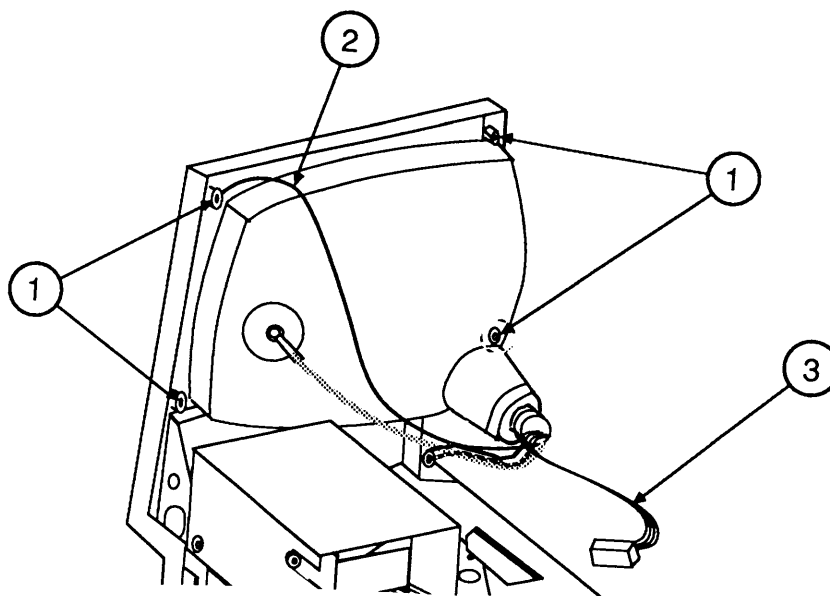

FIGURE 12
4. Gently remove the CRT socket cable (Figure 12, #3) by sliding it straight out from the neck.
1. Set the CRT in the case with the anode facing away from the power/sweep board (see Figure 12).
3. Replace the four CRT screws (Figure 12, #1). Be sure to reinstall the ground wire (Figure 12, #2).